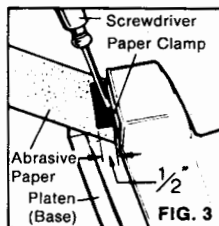
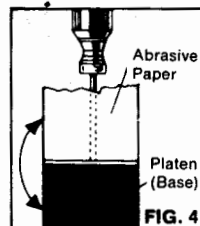

FIG. 3
FIG. 4
3. Insert end of paper into paper clamp, about 1/2", until it stops (Figure 3). Align paper with its edge even and parallel with edge of platen (Figure 4).